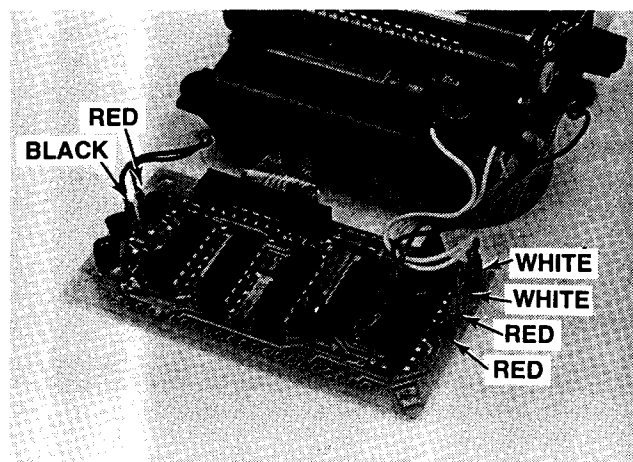

Figure 4-11. Printer PCA Lead Location
- (1) Remove paper from the printer and press **PRINT X**. The display should show "Error," and the printer should not attempt to print. If the out-of-paper switch passes this test, proceed to step b; otherwise, continue troubleshooting the problem at step (2).
- (2) If the out-of-paper switch does not inhibit printing as described above, disconnect the two red leads from the printer PCA near the "0" (see figure 4-11) and insert a continuity tester between them. If the tester does not light with paper out of the printer, clean or—if necessary—replace the out-of-paper switch after disassembling the printer using steps b and c and figure 6-2.
- (3) If step (2) shows the out-of-paper switch to be functioning properly, disconnect the red and black leads to the paper advance switch from the logic PCA (see step 6 of the HP-97 assembly removal and replacement procedures, paragraph 3-24) and insert a continuity tester between them. If the tester does not light (when the paper advance switch is **not** pressed), replace the switch by following the procedures given in step 12 of the procedures referenced above, paragraph 3-24.
- (4) If steps (2) and (3) show the out-of-paper switch and the paper advance switch to be functioning properly, replace ROM 0 on the logic PCA.
b. Disconnect the dc motor leads (one red and one black), out-of-paper switch leads (two red), and reed switch leads (two white) from the printer PCA. (See figure 4-11.)